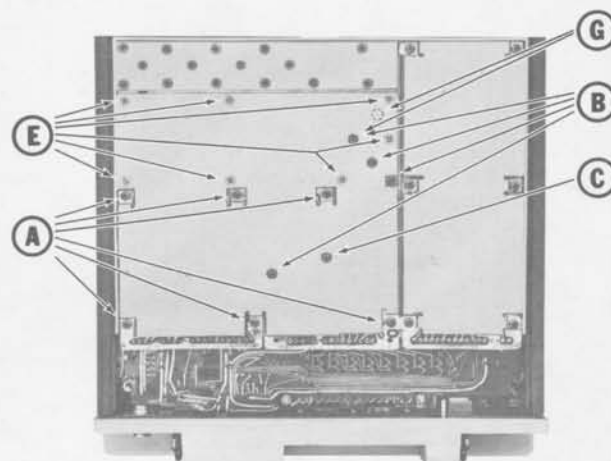

Figure 3 Disassembly Procedure (Bottom View)
3. To gain access to the bottom of the Osc/Mult and IFAS board, remove the six screws (A) holding the receiver bottom cover (see Figure 3).